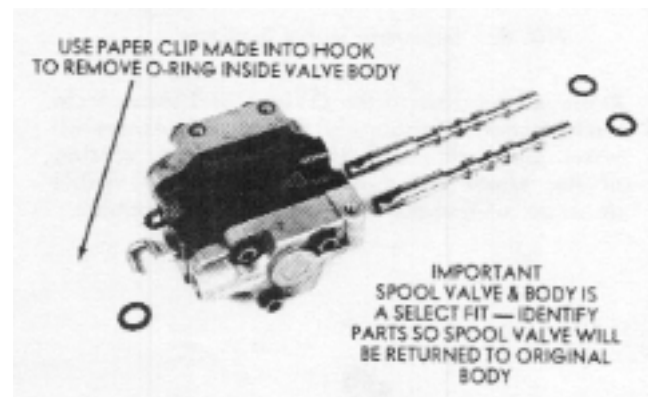

FIG. 6. Spool Valve Removal (Double Valve Shown)
3. Push the spool valve out toward the spool cap end. Remove and discard the spool valve O-rings. (Fig. 6).